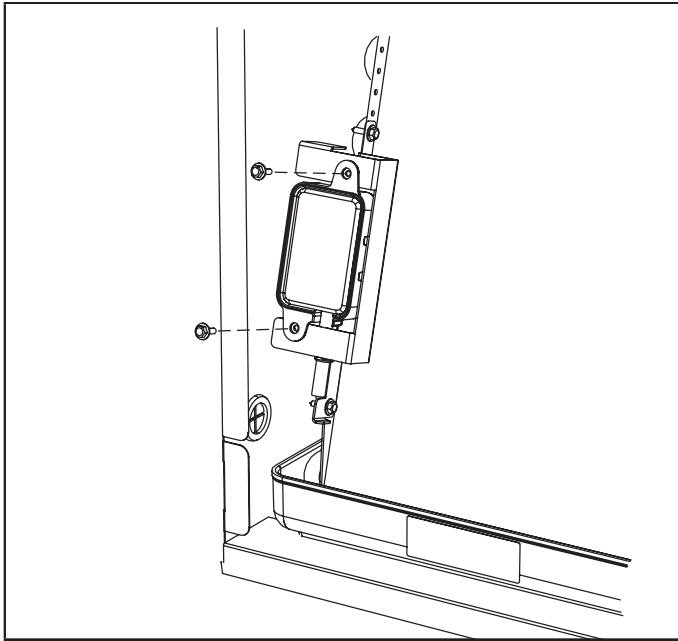

FIGURE 4
- 4 - Position sensor on bracket with sensor wire tucked behind the lower bracket attachment tab. Make sure the sensor mounting tabs are in front of the bracket (figure 4).